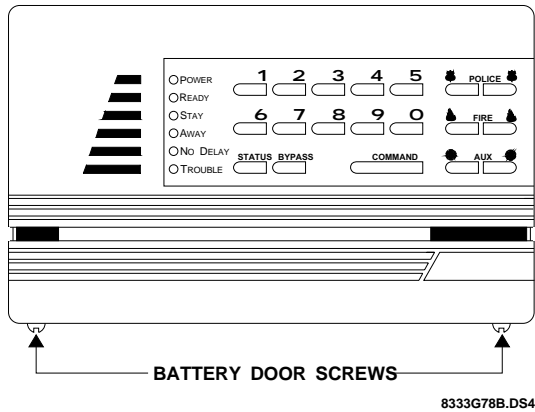

Figure 5. Loosen the two battery door screws
- Loosen the two screws on the bottom of the panel until you are able to slide the door down and out (see Figure 5). Two full turns should be enough to allow you to remove the battery door without removing the screws completely.